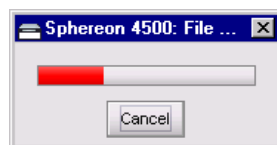

Figure 4-65 File Transfer Message Box
7. Enter a description (up to 24 characters) for the new firmware version. The description should include the installation date and text that uniquely identifies the firmware version. Click *OK*. The *File Transfer* message box displays (Figure 4-65). As the transfer progresses, a progress bar travels across the message box to show percent completion.